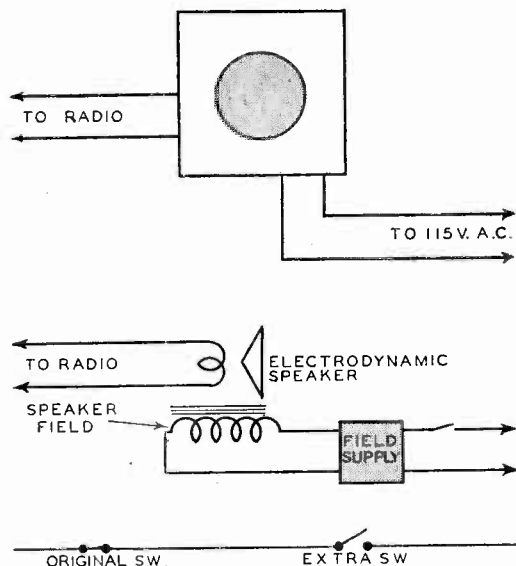

Fig. 6
Adding An Electrodynamic Speaker. The addition of an electrodynamic speaker not equipped with its own field supply is not recommended. A speaker which has its own supply may be added to the radio using the same method previously described in the addition of a p.m. speaker, but there will be the necessity of connecting the power supply to an a.c. line as shown in Figure 6. The field supply may consist of a step-down transformer which supplies about 20 volts to a copper-oxide dry disc rectifier with an output
d.c. line. It may be found, on some occasions, that when this is done the line noise is very evident. Connecting a 2 microfarad, 600 volt condenser directly across the speaker field will help in getting rid of the noise. Where high intensity noise is present, the filter may not be effective and a p.m. speaker should be used instead of the electrodynamic type. The original switch in Figure 6 would be mounted on the power supply chassis. It would be inconvenient to reach around to the rear of the speaker to turn the power on and off. Therefore, an extra switch may be added as shown in the power part of the Figure. The original switch is closed and allowed to remain closed at all times. However, if the owner of the equipment wants to turn off the apparatus he can do so and allow it to remain off—without the possibility of having an unauthorized person turn the speaker on.